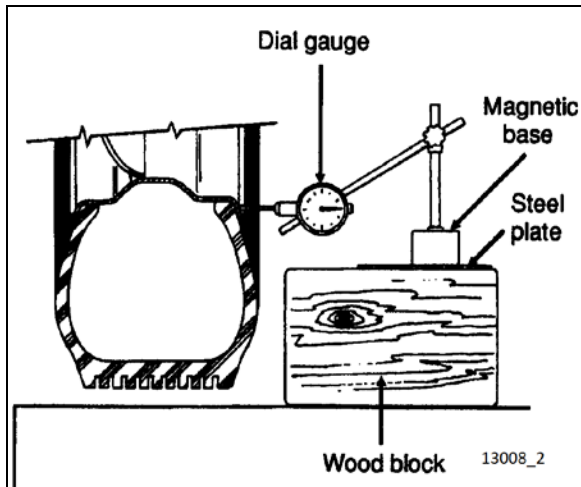

FIGURE 4: DIAL GAUGE INSTALLATION
2. Check wheel lateral run-out. Install a dial gauge as shown in figure 4, then rotate the wheel by hand one full turn. As the wheel turns, note any variation on the dial gauge;